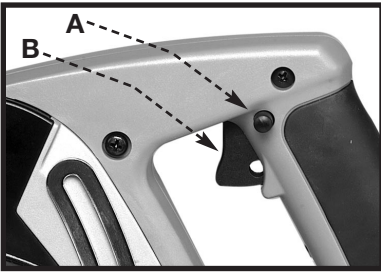

Fig. 3
Depress the safety (A) Fig. 3, and squeeze the trigger switch (B) Fig. 3 to start the motor. Release the trigger switch to stop the motor.